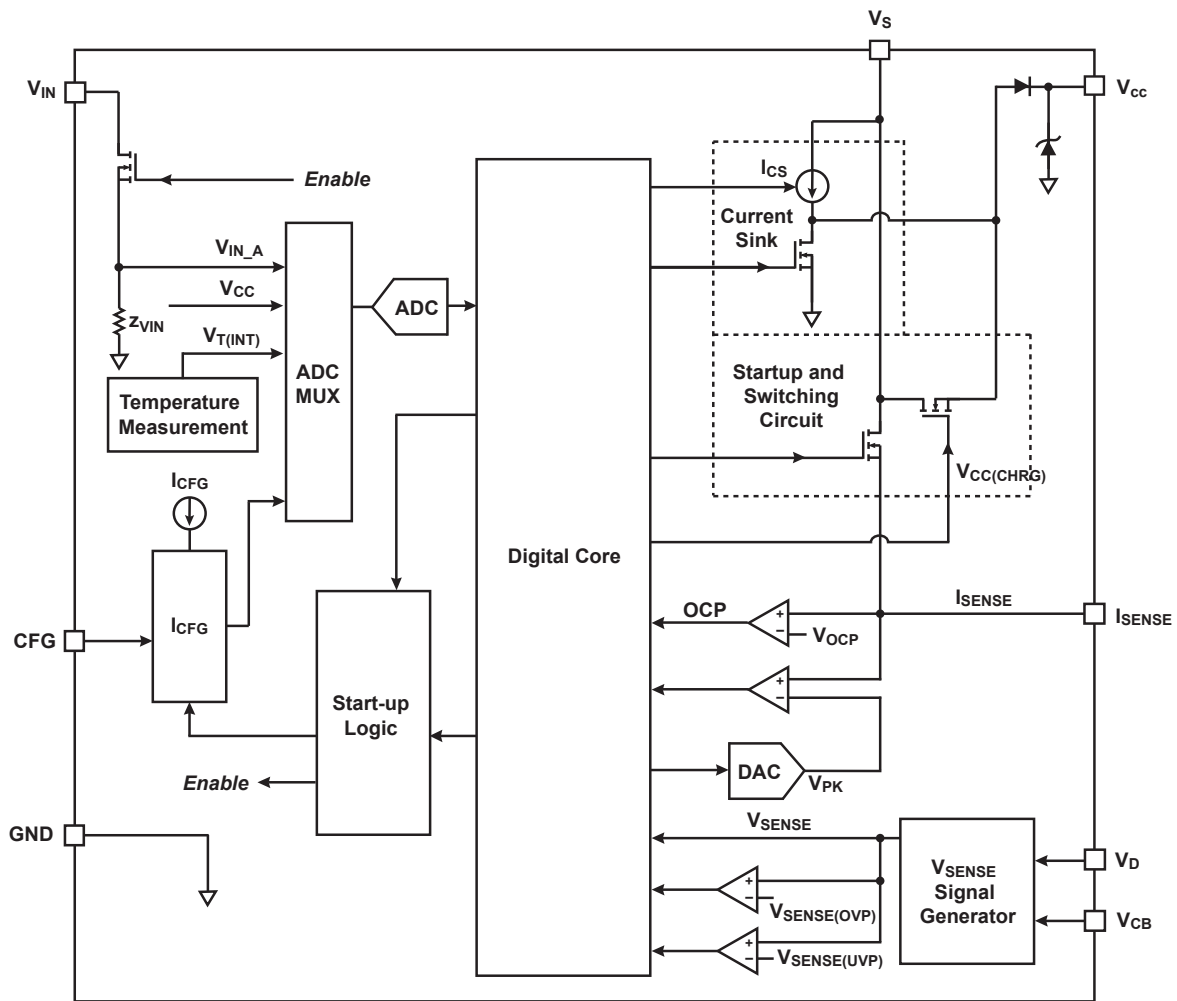
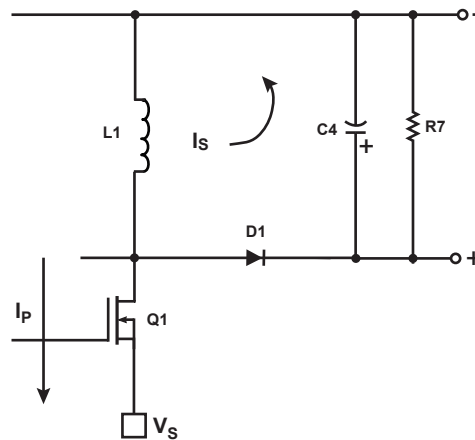
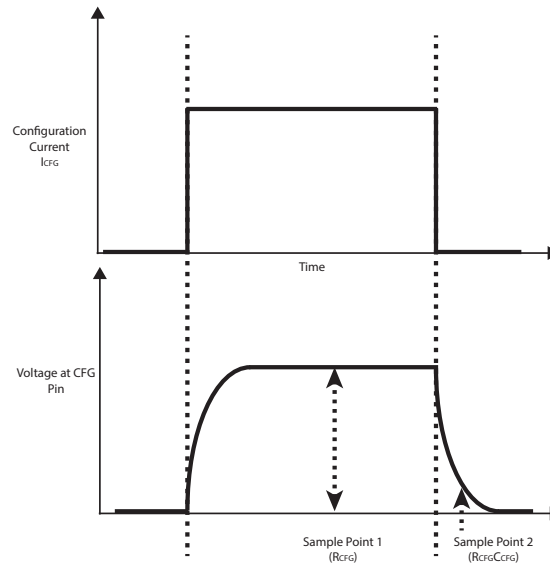

Figure 8.1 : iW3681 Functional Block Diagram
Figure 9.5 : Inductor Current Flow in Switching Mode
Figure 9.9 : Configuration Pin (CFG) Timing Waveform
- Note 2. Refer to the voltage level at the V_{IN_A} point in Figure 8.1. The typical impedance between the V_{IN} pin and V_{IN_A} point is 500Ω .
- Note 4. Refer to Z_{VIN} in Figure 8.1.
The Digital Core (shown in Figure 8.1) analyzes the rectified AC waveform and determines whether a dimmer is connected on the line. There are three dimmer modes in the iW3681: no-dimmer, leading-edge dimmer, and trailing-edge dimmer. Based on the detected dimmer type and input voltage waveform, the iW3681 determines whether to operate in current sink mode or switching mode. During switching mode, the output current regulation is determined by the inductor peak current (I_{SENSE} pin), the magnetic flux status of the inductor (V_D and V_{CB} pins), and the input voltage waveform (V_{IN} pin) (refer to section 9.4 for more information).
If a dimmer (either leading-edge or trailing-edge) is detected on the AC line, the iW3681 operates in dimmer mode. In dimmer mode, MOSFET (Q1 in Figure 11.1) operates in both switching mode and current sink mode based on the timing control of iW3681. During the switching mode, the output current is adjusted based on the detected phase conduction angle. During current sink mode, the switching circuit is disabled and the current sink circuit is enabled. The main MOSFET is forced to operate in linear mode, where the current through MOSFET is regulated by the Digital Core. As shown in Figure 8.1, V_{CC} can be charged during both current sink mode and switching mode.
In iW3681, output current regulation is implemented through peak current control in switching mode. Figure 9.5 and 9.6 show the basic principle of this peak current regulation during the switching mode. During T_{ON} , the main switch Q1 (shown in Figure 9.5) is turned on and the current, I_P , flows through the primary side of the buck-boost converter and Q1. I_P ramps up linearly and causes energy to build up in the power inductor L1 (shown in Figure 9.5). The iW3681 continuously monitors I_{SENSE} pin voltage, when it reaches V_{PK} (shown in Figure 8.1), it turns off the switching circuit. At this time, I_P reaches peak current regulation level I_{PK} (shown in Figure 9.5 and 9.6). After Q1 is turned off, the current in L1 ramps down linearly through D1 (shown in Figure 9.5), until the energy stored in the power inductor is discharged. During this period, the current through L1 flows to the secondary side of the buck-boost/flyback converter, which is called I_S .
where I_{PK} is the peak value of the primary winding current. N_{TR} is the primary-secondary turns ratio. For single winding inductor topology as shown in Figure 9.5, $N_{TR} = 1$. T_R is the secondary-side current ramp-down time, and T_P is the entire switching period.
At start-up, a current source in the iW3681 drives the configuration current I_{CFG} (100 μ A) into the CFG pin (shown in Figure 8.1). The iW3681 reads the pin voltage to determine the configuration option. The CFG pin configuration selects the temperature de-rating start point (OTP), V_{PK} high limit value at dimmer mode, and V_{IN} rising edge V_{PK} clamp value at no dimmer mode. The iW3681 can use either a single CFG resistor to ground for programming the configuration function, or it can use an RC configuration method to achieve more configuration flexibility. The CFG pin monitors two voltage sample points as shown on figure 9.9. The first point is set by the resistor value from CFG to ground and the second is set by the RC time constant if a capacitor is placed in parallel with the CFG resistor. Based on these two sample points, the iW3681 sets the functionality shown in table 9.1. The iW3681 can determine whether the capacitor is used in parallel with the resistor or not and program the configuration function accordingly.